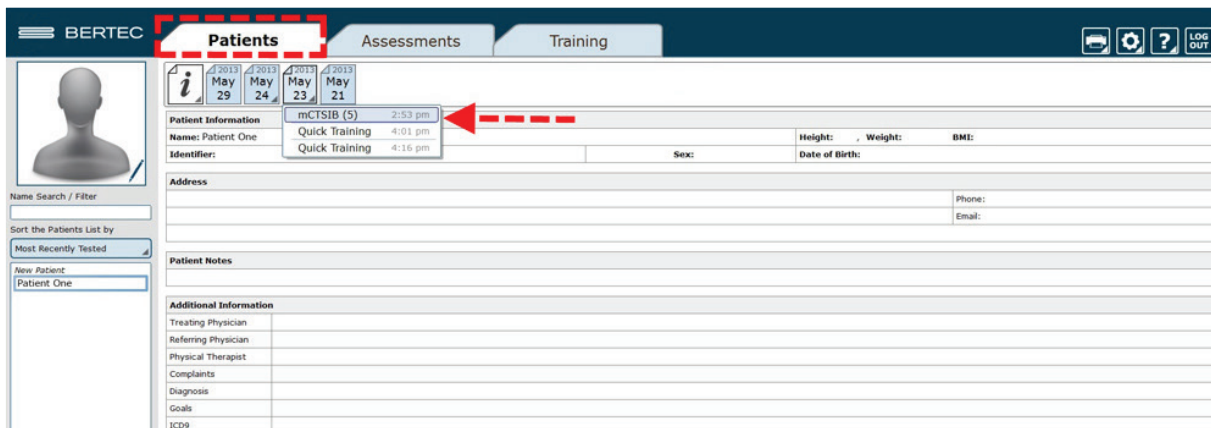

Figure 24: Return to Patient Screen to View Progress Reports.
4. Progress reports can be viewed by returning to the Patients tab, shown in Figure 24.